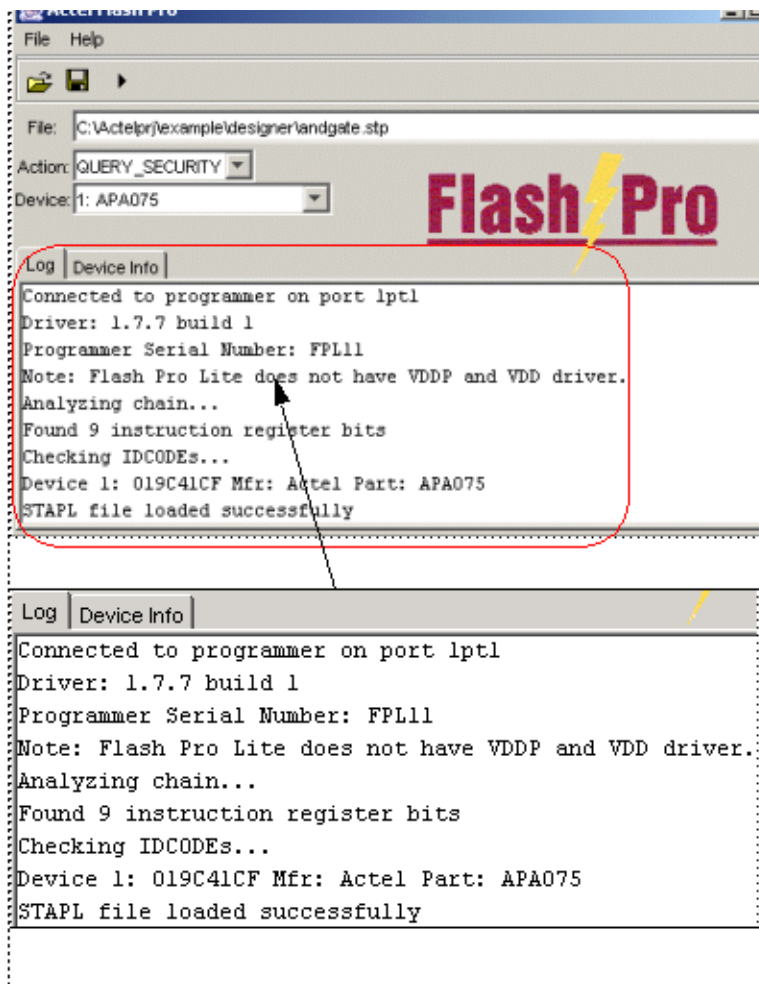

Figure 5-31. STAPL file loaded successfully
2. **Browse to the root folder of the project, select the STAPL file, and click *Open*.** The FlashPro software loads the file. The FlashPro Log window displays a message indicating that the software has successfully loaded, as shown in Figure 5-31.